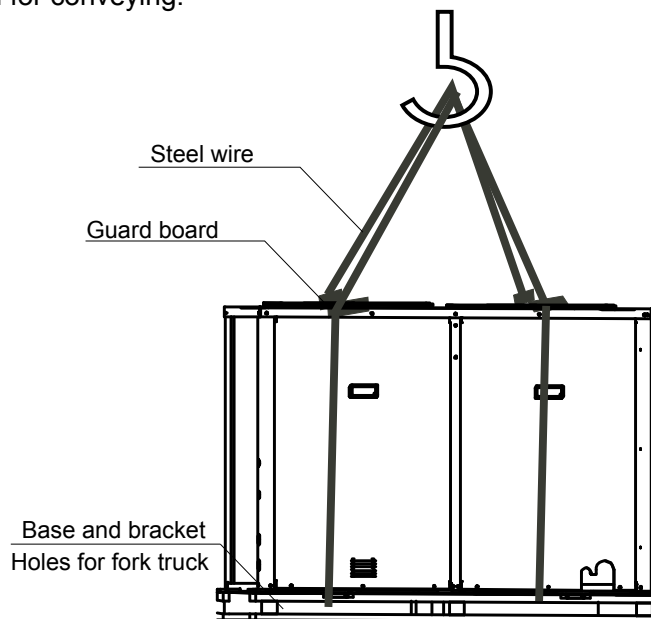

Fig 2-6
- Remove the cushion for use in the transport after finishing the transport. (Fig 2-6)